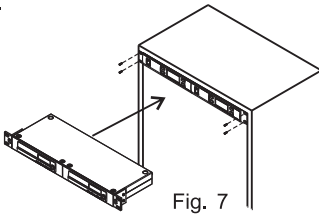

Fig. 7
3. Fasten the receivers on an EIA standard 19-inch rack case. Fig. 7